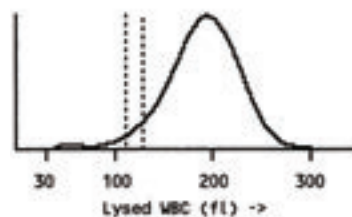

Figure 5.3
- The histogram and data in Figure 5.3 are representative of a chronic inflammatory response. In both cases the granulocytes make up greater than 90% of the WBC population.